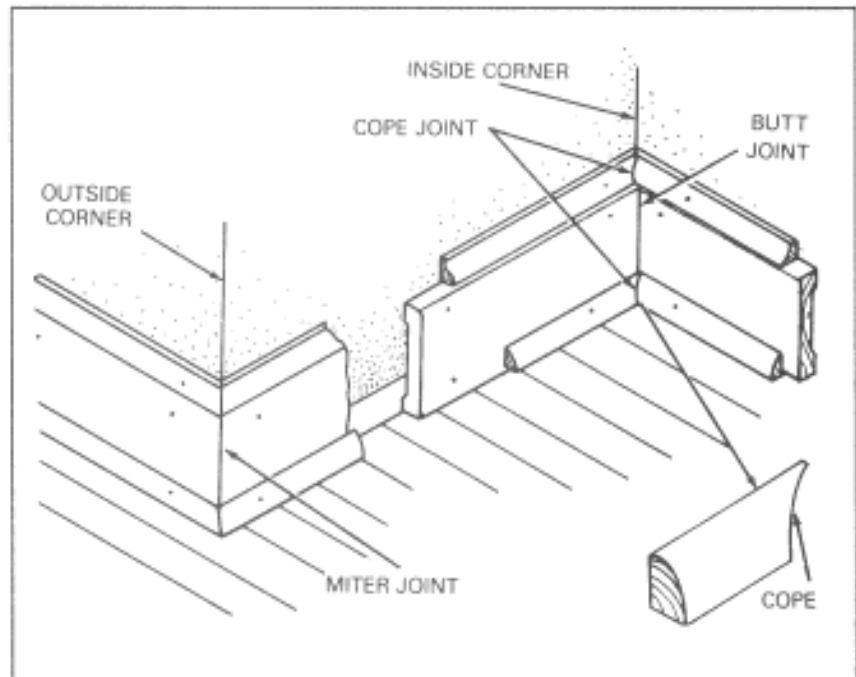
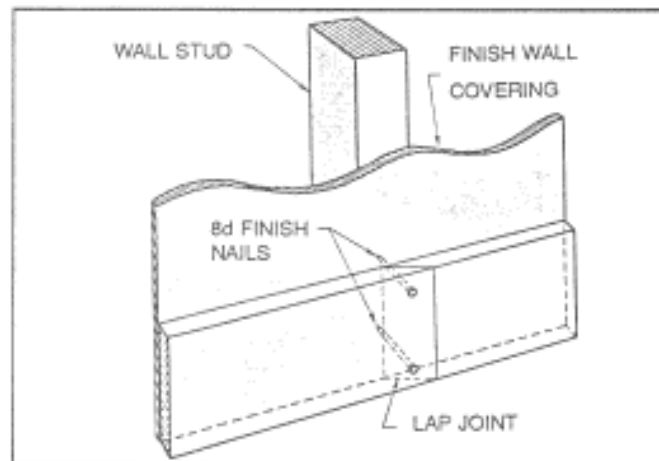
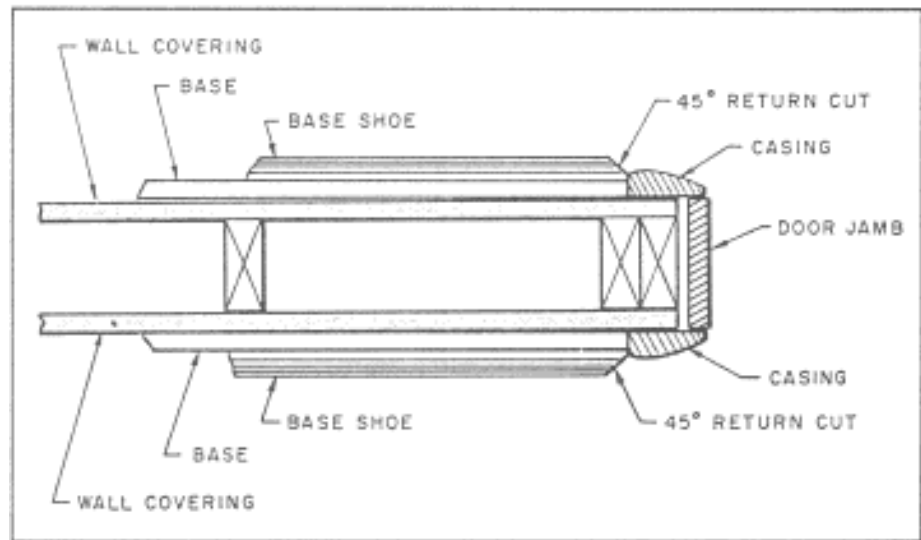

Figure 9-7. Installing base molding
Figure 9-8. Trim lap-miter joint
Figure 9-9. Base-shoe trimming
*Square-edge (or two-piece)* baseboard consists of a square-edged baseboard topped with a small base cap. When the wall covering is not straight and true, small base molding will conform more closely to the variations than will a one-piece base alone. This type of baseboard is usually 5/8 x 3 1/4 inches or wider. Installation of square-edged baseboard is shown in Figure 9-7.
Baseboard should be installed with a butt joint at the inside corners and a mitered joint at the outside corners. (The baseboard installation in Figure 9-7 is done with square-edge baseboard.) It should be nailed to each stud with two 8d finishing nails. Base molding should have a *coped joint* at inside corners and a mitered joint at outside corners. A coped joint is one in which the first piece is square cut against the plaster or base and the second molding is coped. This is done by sawing a 46° miter along the inner line of the miter. The base shoe should be nailed into the subfloor with long, slender nails, but not into the baseboard itself. Then, if there is a small amount of movement in the floor, no opening will occur under the shoe. When several pieces of molding are needed, they should be joined with a lap miter (Figure 9-8). When the face of the base shoe projects beyond the face of the molding, it abuts (Figure 9-9).